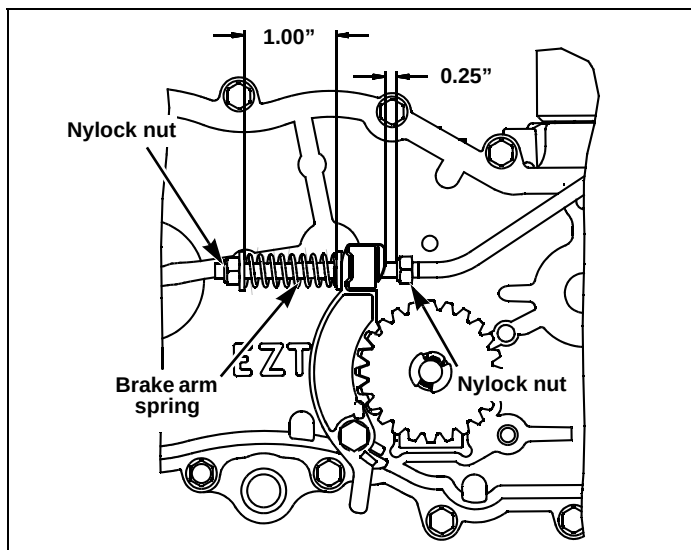

Figure 4-7
2. On one side measure the park brake spring. It should be compressed to 1.00". If it is not, adjust the nylock nut until the proper spring compression is achieved (Figure 4-7).